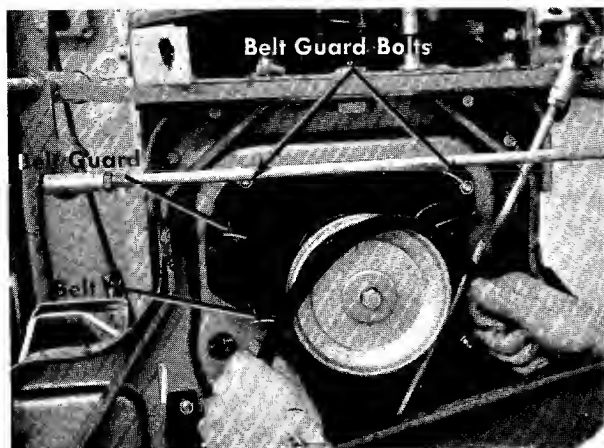

FIGURE 27. REMOVING MOWER BELT
- Step 3. Unhook the belt from the engine pulley. See figure 27.
Step 5. Unhook the tension springs on both sides of the deck. See figure 27.
Step 3. Unhook the belt from the engine pulley. See figure 27.